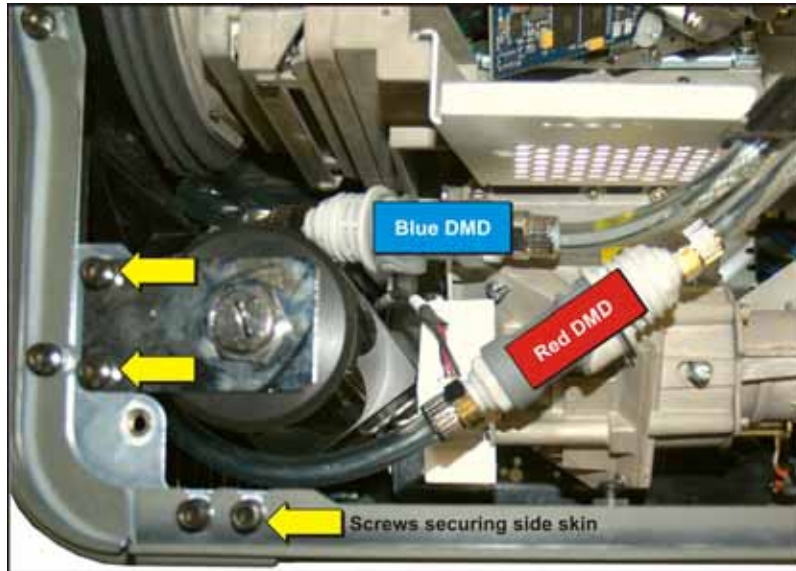

Figure 5-41 Quick Disconnects
5. Disconnect the two quick disconnect hoses to the light engine (**Figure 5-41**).
6. Use a 4mm hex key to remove the two screws from the bracket securing the reservoir and pump (**Figure 5-41**).
7. Loosen the two screws securing the side skin in order to pull the skin aside and slide the cooling assembly out (**Figure 5-41**).